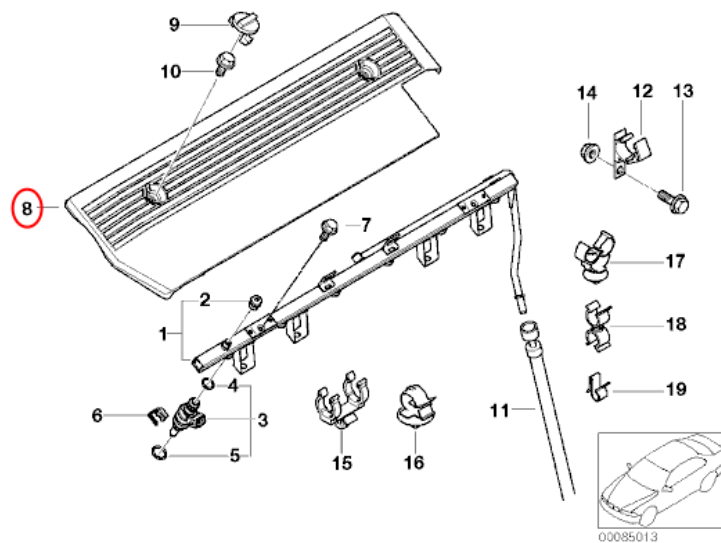

Figure 1
2. Remove the the fuel rail cover (Figure 1, #8)